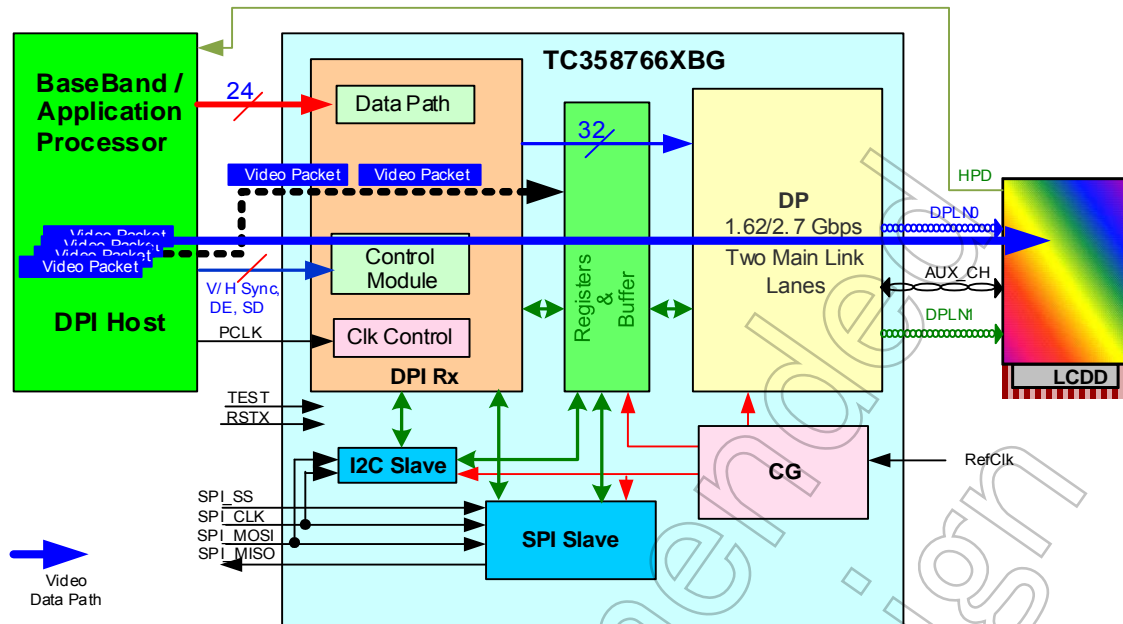

Figure 1.3 System Overview with TC358766XBG in MODE_P21 Configuration
- **Mode_P21:** A system configuration where TC358766XBG may typically be used is shown in Figure 1.3. This is similar to the Mode_S21 except that the video stream source is from DPI Host. In this configuration, the TC358766XBG can support displays with resolution up to WUXGA (1920x1200) at 24bit, 60 fps.